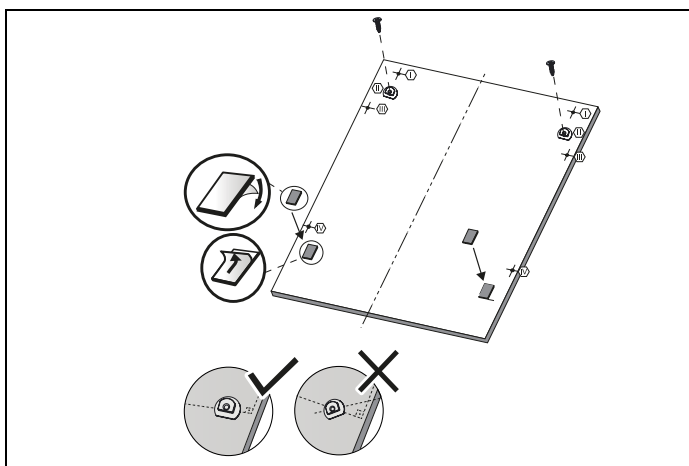

Fig. 25
- 4) As shown in Fig. 25 , door mounting plastics are installed in positions II and Wooden Door Fixing Strips are installed in positions shown in the figure.